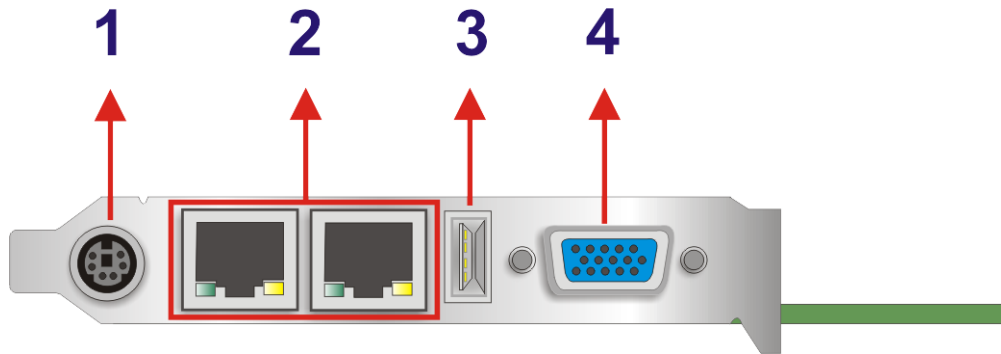

Figure 3-18: External Peripheral Interface Connector Panel
Figure 3-18 shows the WSB-9454 CPU card rear panel. The peripheral connectors on the back panel can be connected to devices externally when the CPU card is installed in a chassis. The peripheral connectors on the rear panel are:
- CN Location:** See Figure 3-18 (labeled number 2)
- CN Location:** See Figure 3-18 (labeled number 1)
- CN Location:** See Figure 3-18 (labeled number 3)
- CN Location:** See Figure 3-18 (labeled number 4)